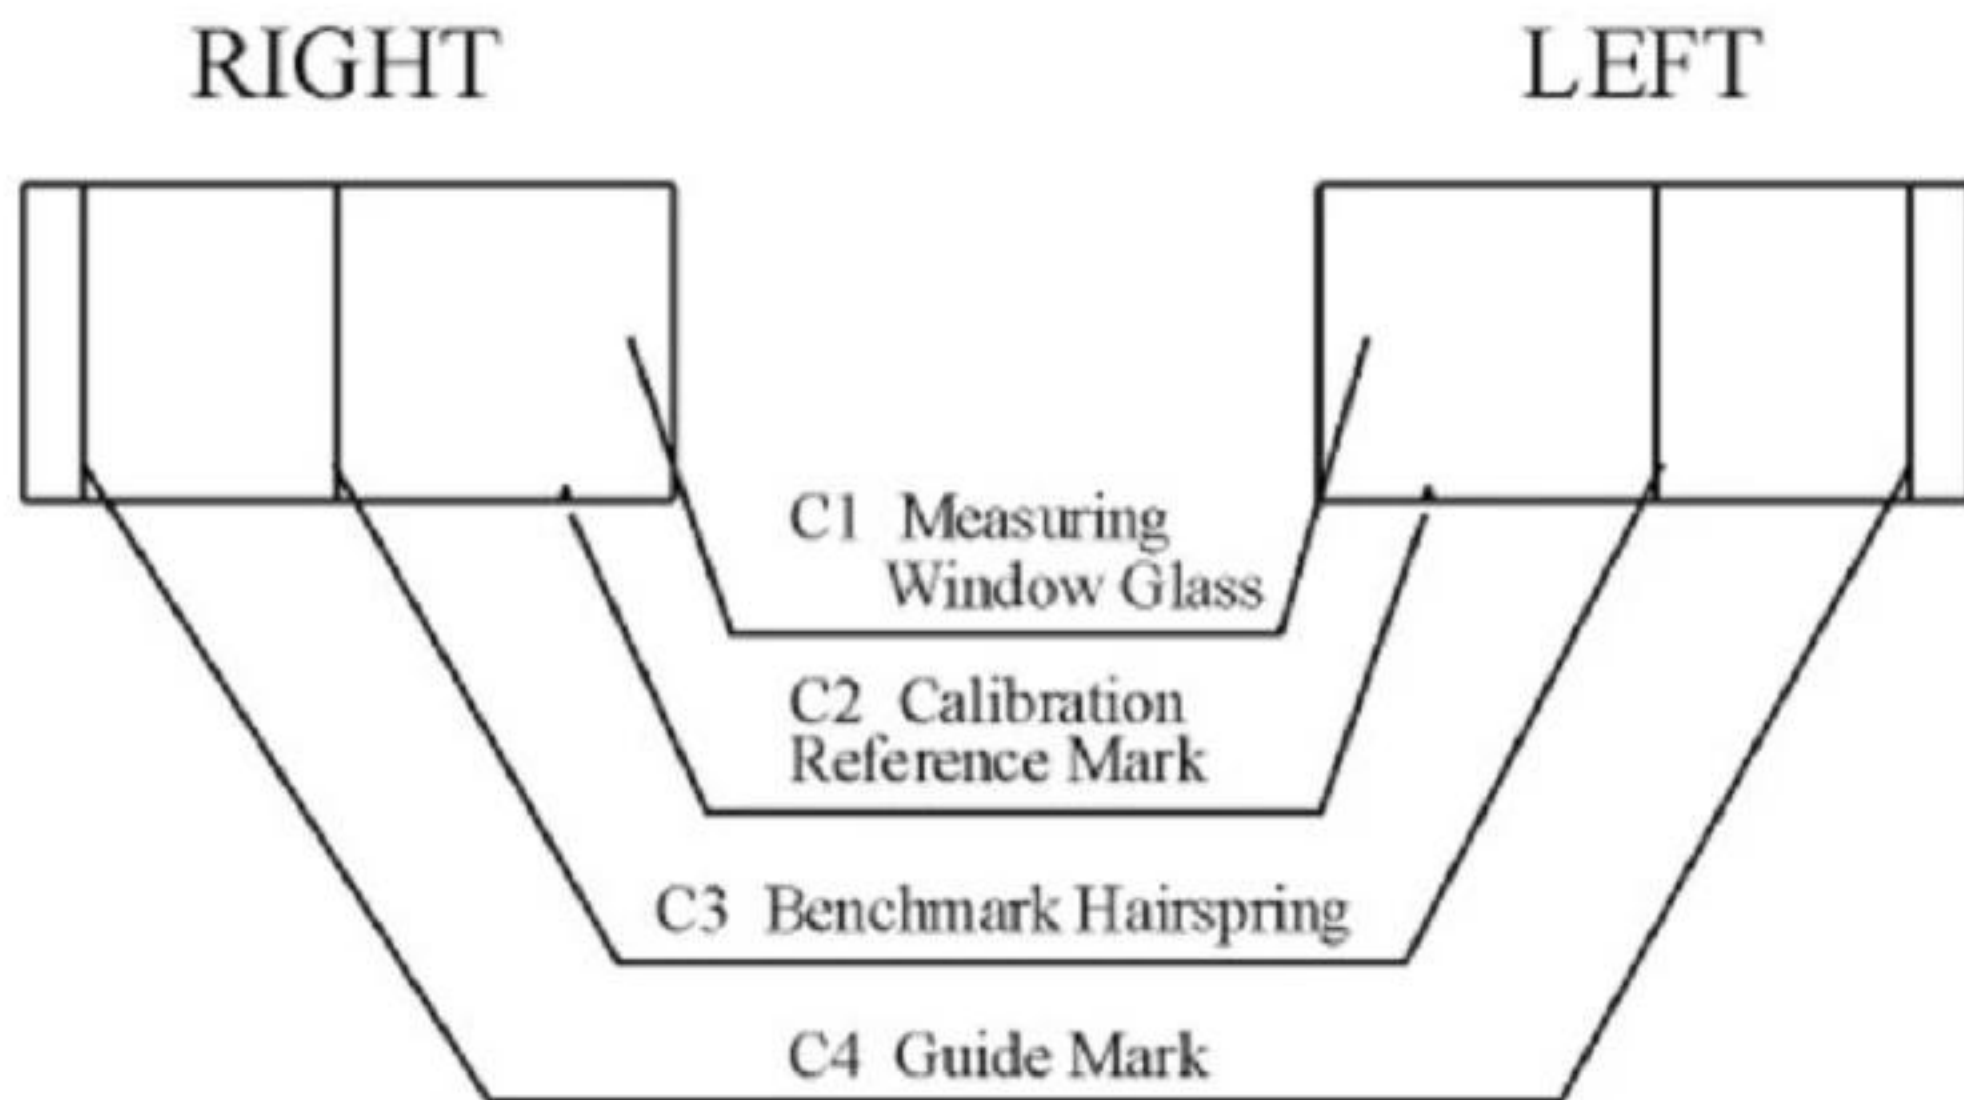

Fig.4
3.3 Viewed from the Measuring Window (as shown in Fig.4)